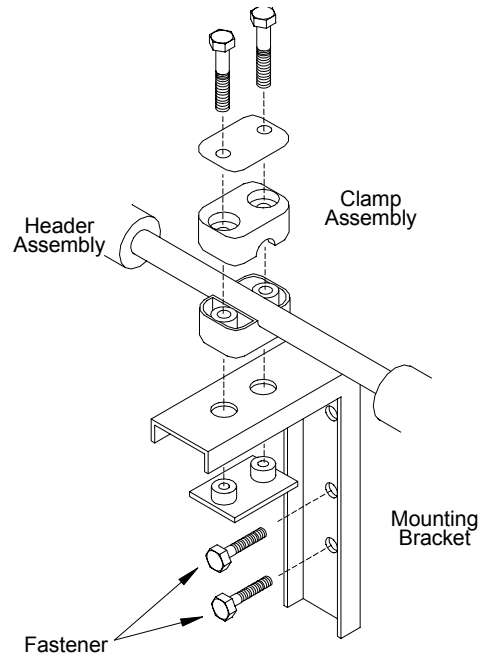

FIGURE 4
4. Mark the mounting holes and install fasteners suitable for type of wall construction. (Figure 4)
8. Mark the mounting hole and install fasteners suitable for type of wall construction. (Figure 4)